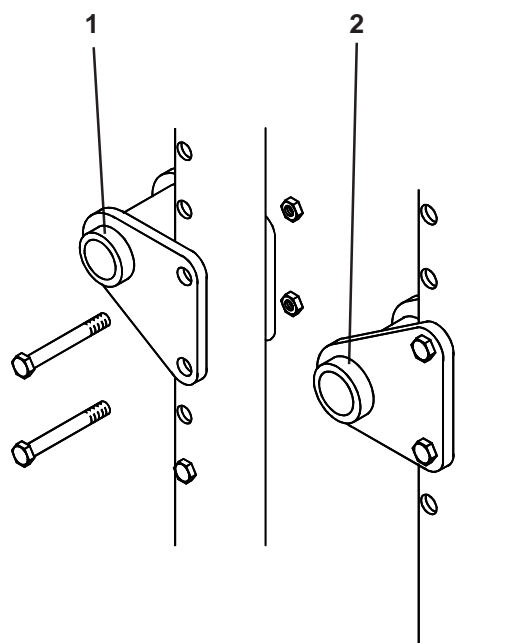

Fig. 29
To adjust the height of the rear of the seat (Fig. 29), position the rear axle bracket (1) in the low position (2). When the bracket is in the low position the seat is in its highest position. To change the seat height to the low setting remove the two retaining bolts using a 10mm A/F spanner, and turn the bracket up side down. Replace the bolts and retaining nuts and tighten them to 8-10Nm torque setting.